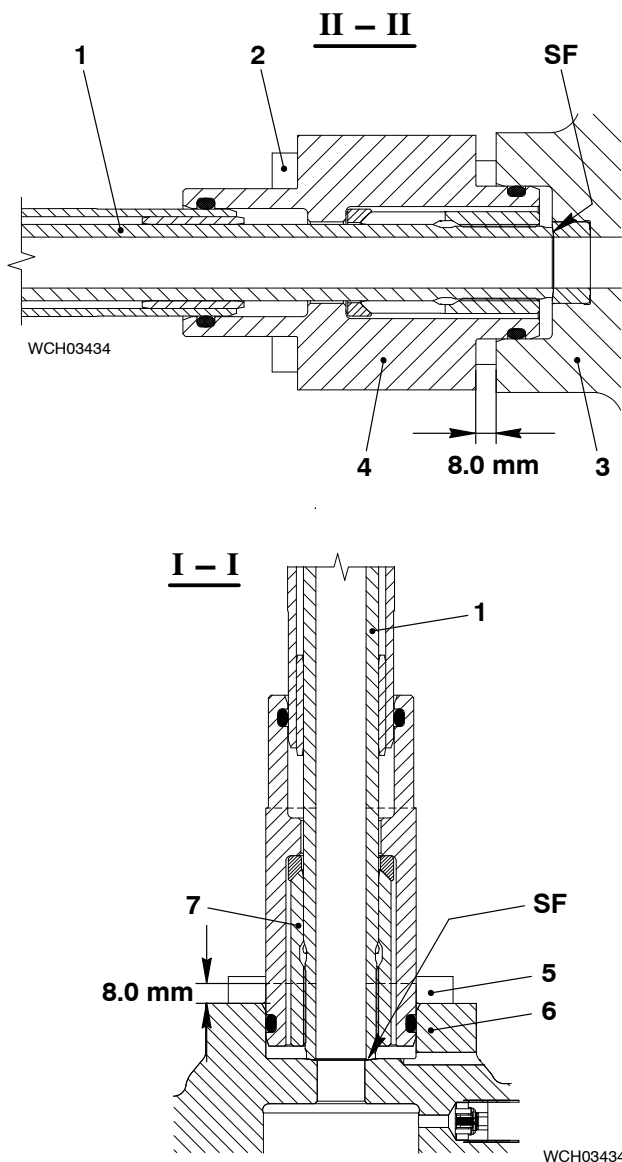

Fig. 6
- 1) Remove all of the protection from the sealing faces (SF, Fig. 6) in the top housing (3) and the VCU (6).
- 3) Carefully put the hydraulic pipe (1) in position in the top housing (3) and the VCU (6).
- 4) Torque symmetrically the four screws (2) to 40 Nm.
- 5) Make sure that there is a distance of 8.0 mm between the flange (4) and the top housing (3).
- 6) Torque symmetrically the four screws (5) to 40 Nm.
- 7) Make sure that there is a distance of 8.0 mm between the flange (7) and the VCU (6).